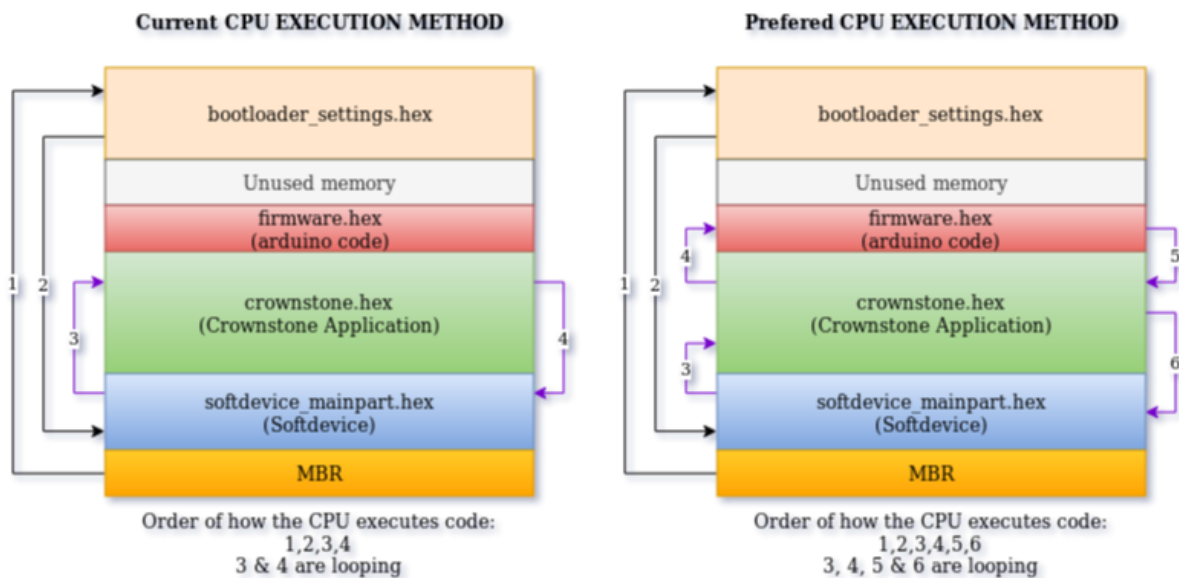

Figure 8: CPU Execution of code in the Memory Map Scheme
6.2.1.6 Running Arduino code alongside Crownstone (both independently) When both bluenet and the arduino code are flashed to the nRF52-DK the cpu only executes bluenet. The arduino code and bluenet function as two different applications. There is no way for one application to just call a function or an object in another application. There is also no function in the crownstone to refer cpu to the arduino code to execute it. There needs to be a reference in the crownstone code to the address of the arduino code. For that we need the use of a handler to refer the cpu to the address of the arduino code. More info about handlers can be found in chapter 5.13. How the cpu currently executes the binary files is visualized in figure 8.